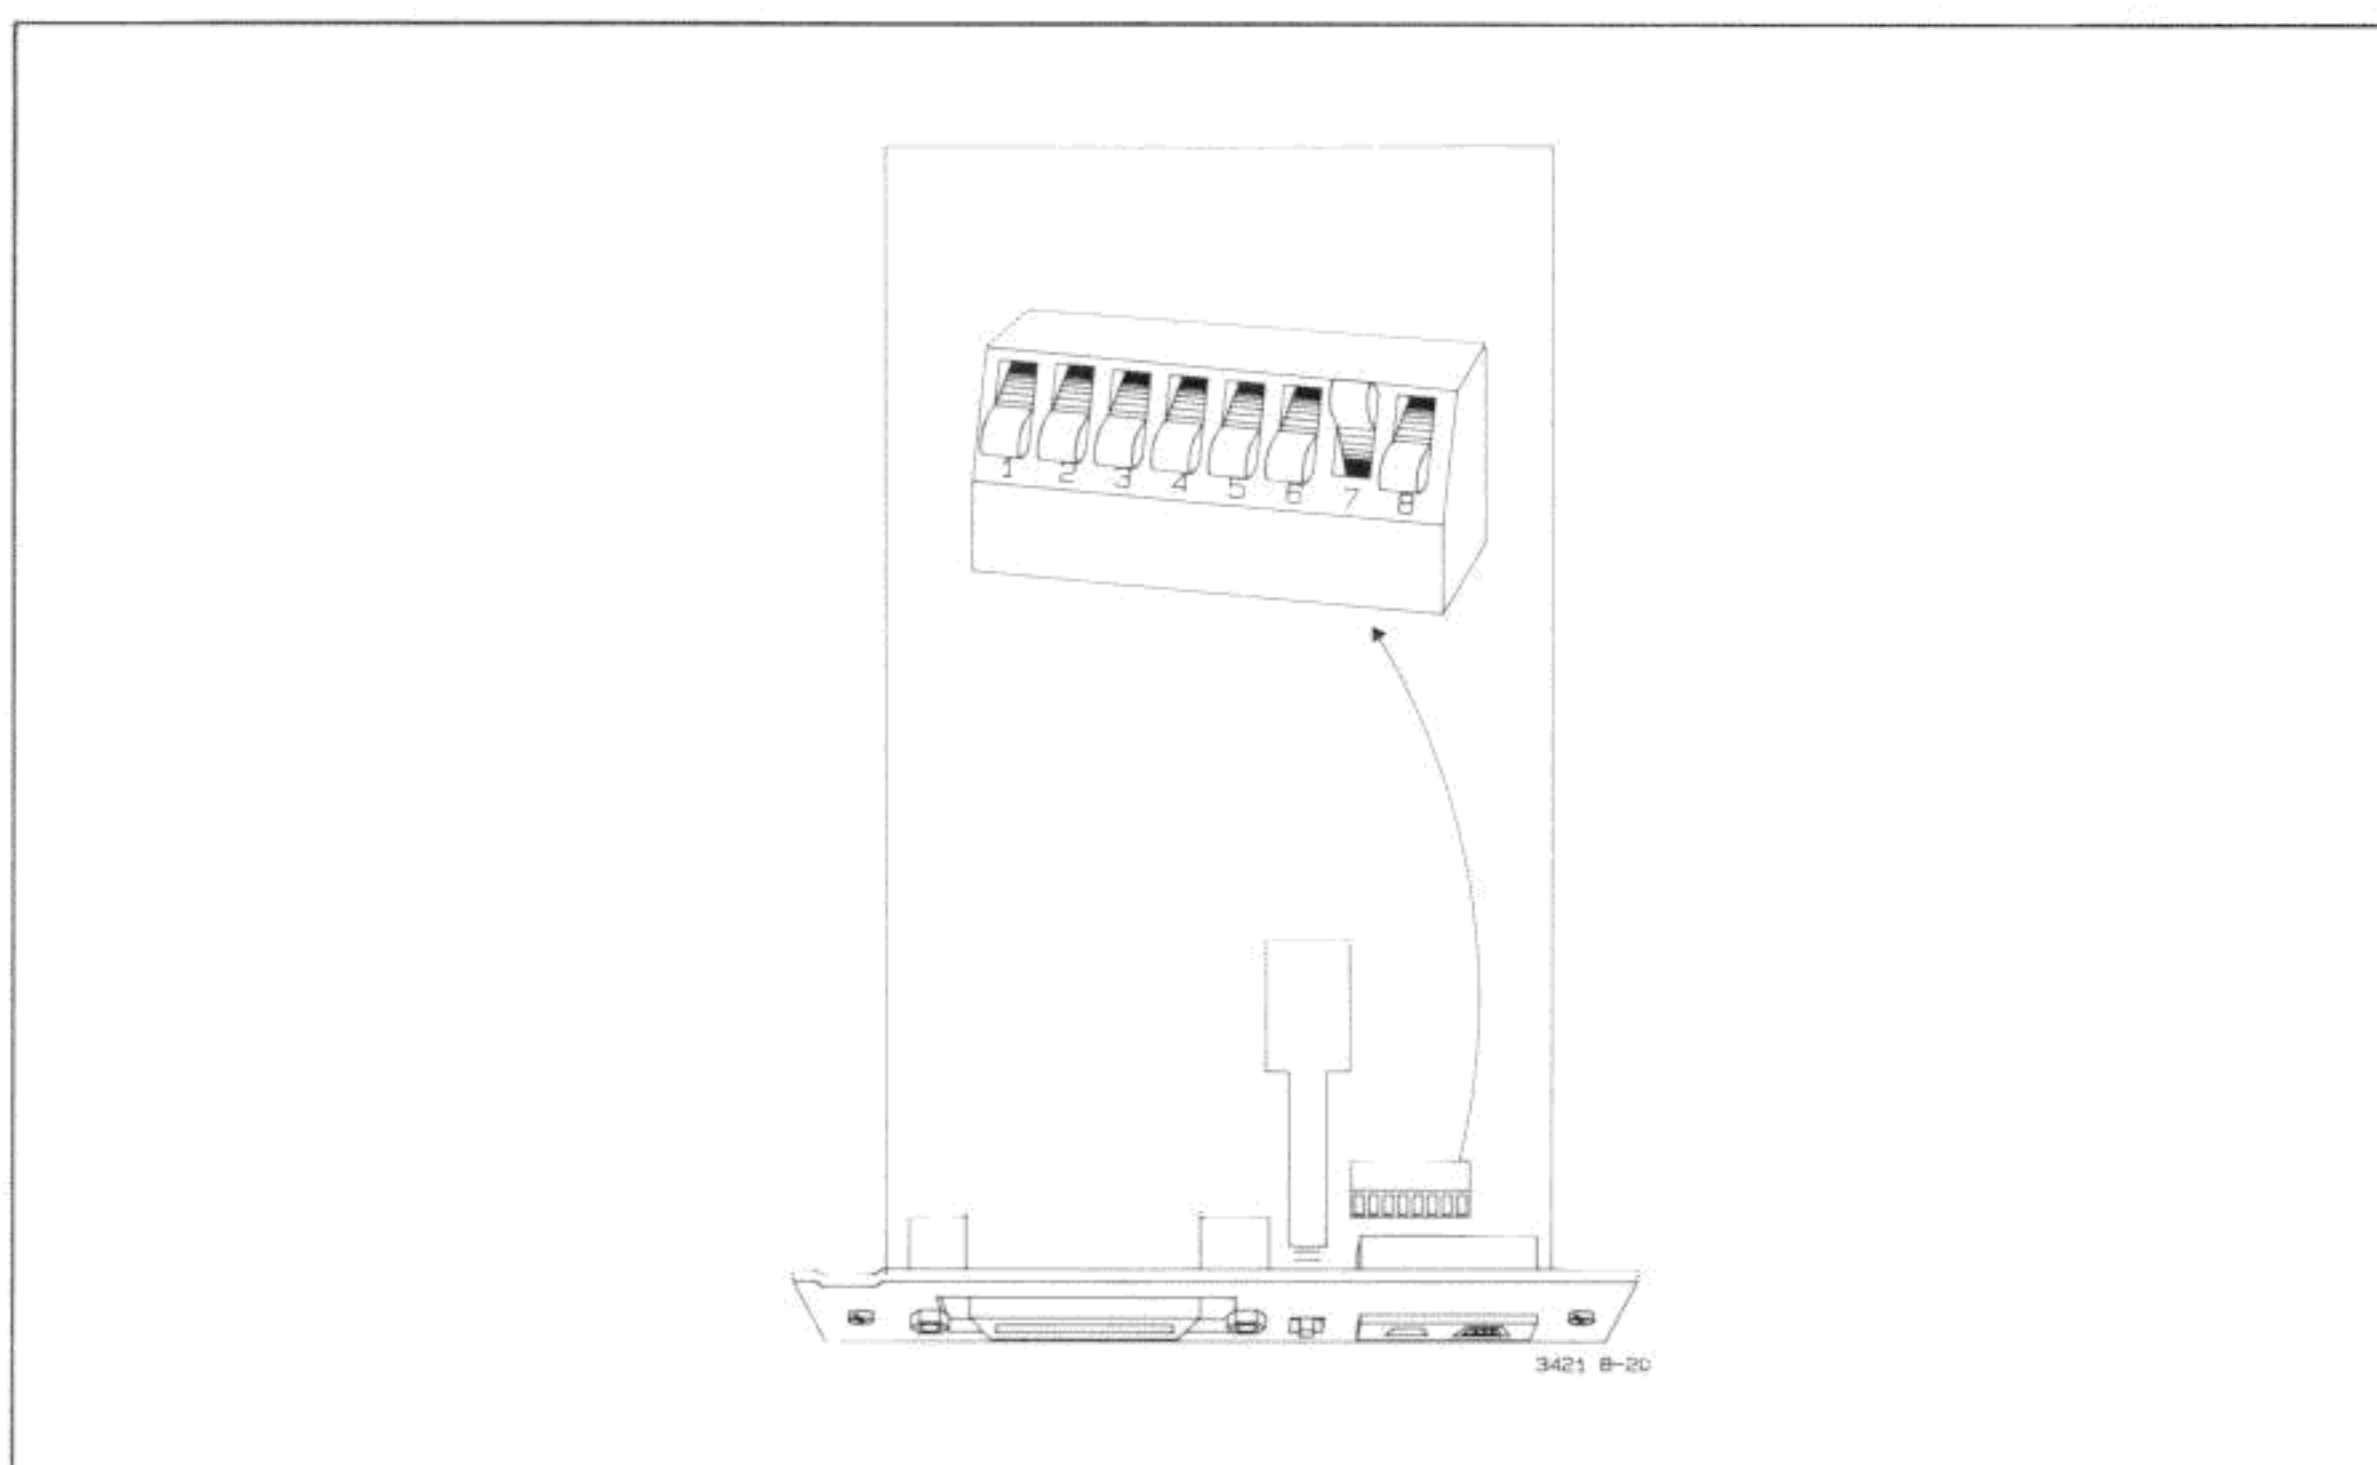

Figure 4-8-20. S802 Switch Settings for SA Test #3
- b. Refer to Figure 4-8-20 and set the switch segments of S802 as follows: